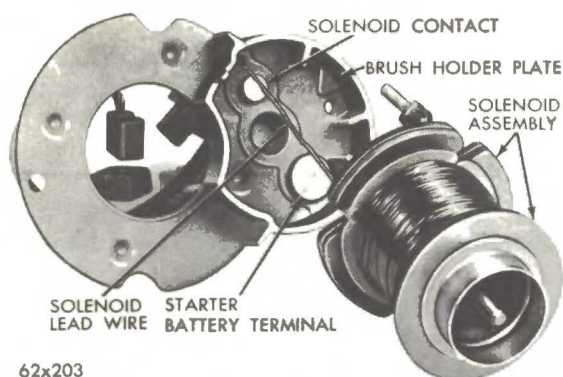

Fig. 9 Separating Solenoid from Brush Holder Plate
(11) Separate the brush holder plate from the solenoid (See Fig. 9).